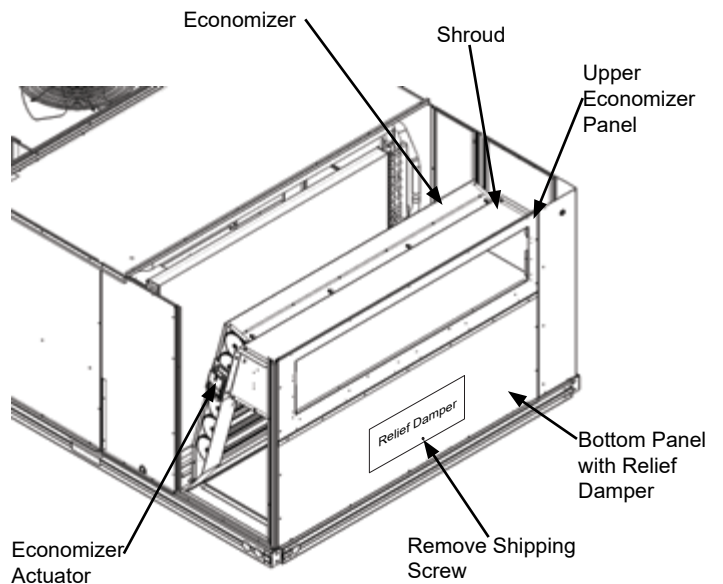

Fig. 7 - Bottom Panel Installation (49 3/8" Tall Unit Shown)
- Install the bottom panel with the relief damper attached on the unit. (See Fig. 7.) Screw panel in place.
(See Figs 7 and 8.)
See Fig. 7. Cut a 15.3" x 34.75" hole in the side of return duct and mount hardware cloth screen and relief damper assembly. See Figs. 16A and 16B.